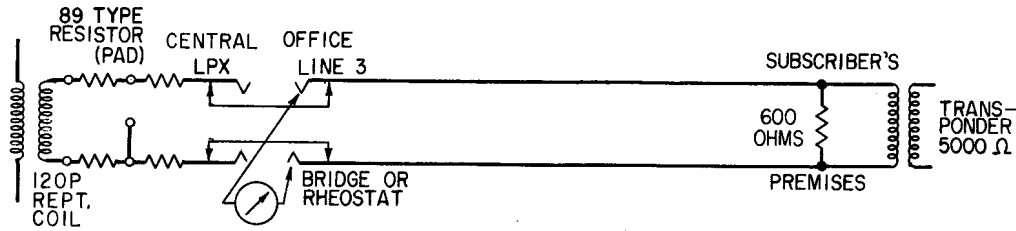

Fig. 1 — Measurement of Loop DC Resistance
**3.01** The resistance of each loop should be measured as shown in Fig. 1 from its LINE jack at the central office with a Wheatstone Bridge or rheostat which is part of the local test desk. The measurement should include the 600-ohm resistance on the loop which is located at the subscriber's premises. If the transponder is installed by ARB, its resistance of about 540 ohms will be in parallel with the Telephone Company resistor and this should not be overlooked. The resulting resistance of each loop